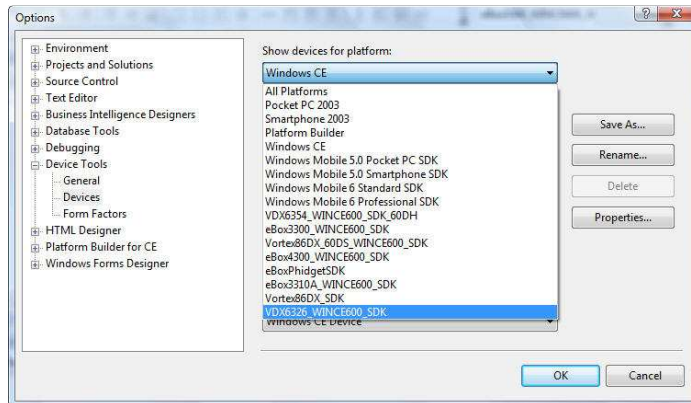

Fig. 56 - VS2005 Tools Options
- On the right, select **VDX6326_WINCE600_SDK** from the list of available platform in the **Show devices for platform** combo text box, as shown in Figure 56.